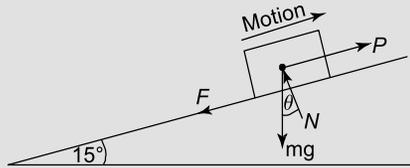

Figure 16.6
**Problem 7.** Determine the value of the force  $P$ , which will just move the body of mass of 25 kg up the plane shown in Figure 16.6. It may be assumed that the coefficient of limiting friction,  $\mu = 0.3$  and  $g = 9.81 \text{ m/s}^2$ .